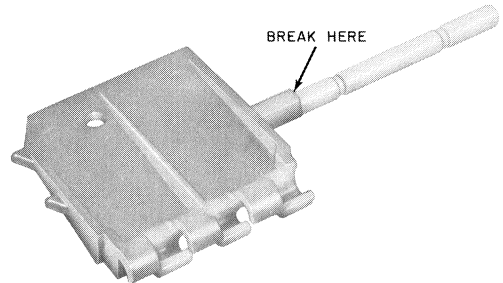

Fig. 1—840360572 Replaceable Coin Vane
2.01 The 840360572 replaceable coin vane (Fig. 1) is a part of D-180410 Kit of Parts.
(1) Refer to Fig. 1 and carefully break handle off new 840360572 vane. This handle serves as the new hinge pin.